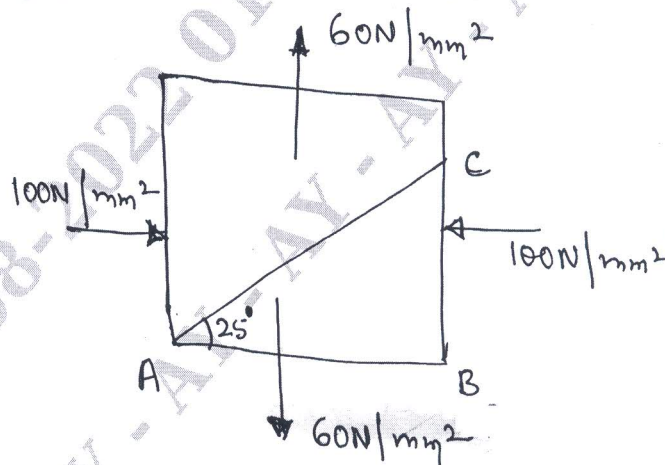

Fig Q3(c)
- c. The direct stresses at a point in a strained material are  $100\text{N/mm}^2$  compressive and  $60\text{N/mm}^2$  tensile as shown in Fig Q3(c). Find the stresses on the plane AC. (12 Marks)